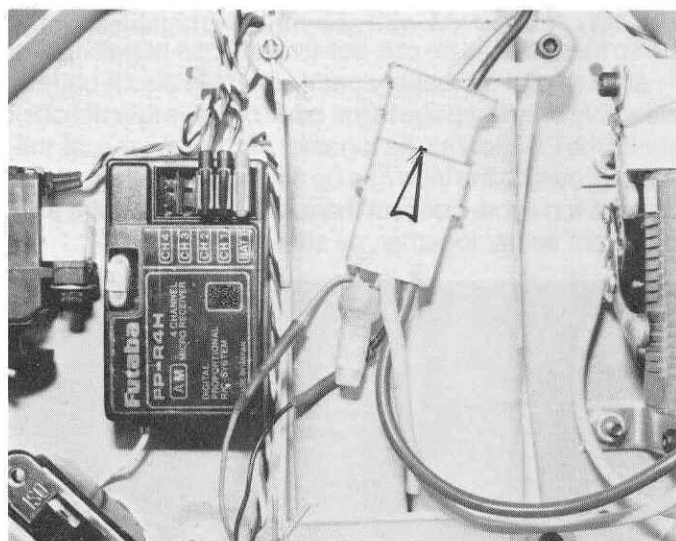

**Fig. 186**
□ **Fig. 186** Now wrap both ends of the battery with strapping tape or black electrical tape, as shown.